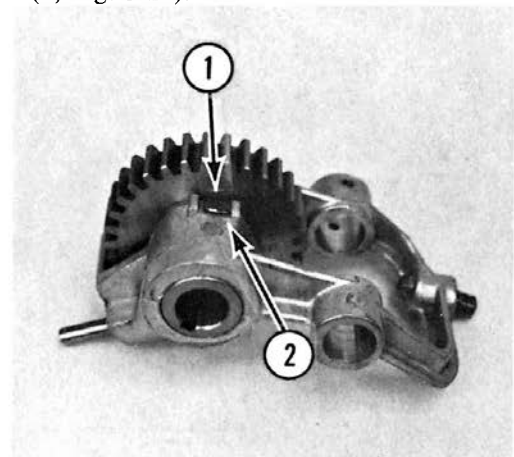

Fig. 3-24
- G. Bend the tongue (1, Fig. 3-24) into the bracket (2, Fig. 3-24).